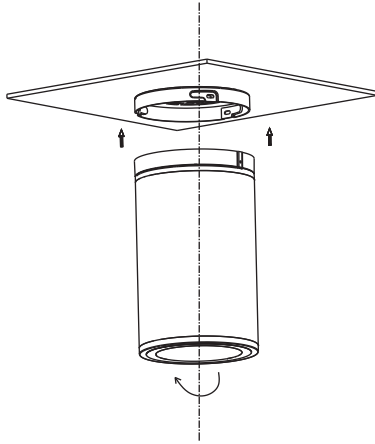

Figure 6
- Tuck all wires inside ceiling Jbox. Align the notches on the fixture mounting canopy and “L” shape slots on the ceiling mounting plate, insert and rotate clockwise to attach the fixture to the ceiling. (Figure 6)